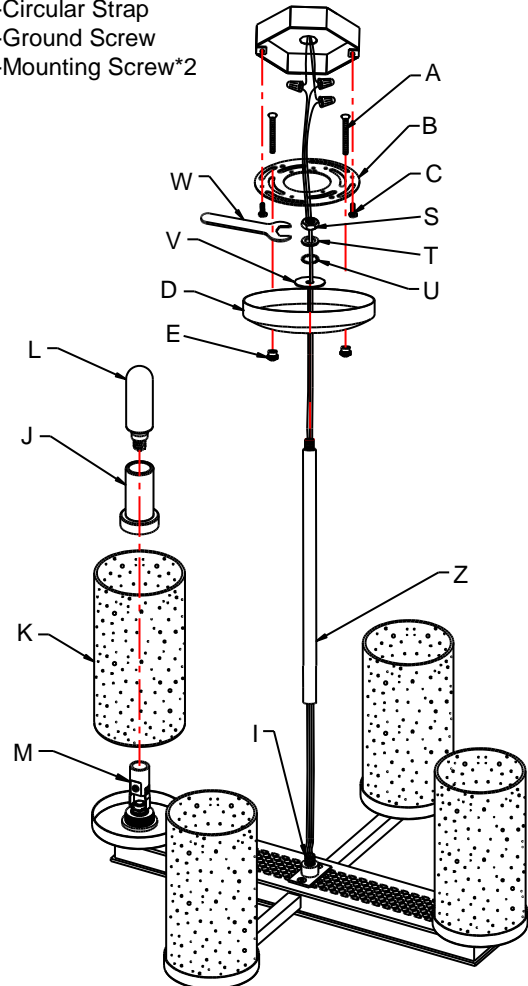

Fig. 5
1. Loosen hex nut (S) by using wrench (W). Carefully remove washer (T), lock washer (U), metal plate (V), canopy (D) and loop (H2) (Fig.5). Cut down a length of wire if the wire is too long.
2. Secure the metal tube (Z) into the nipple (I).